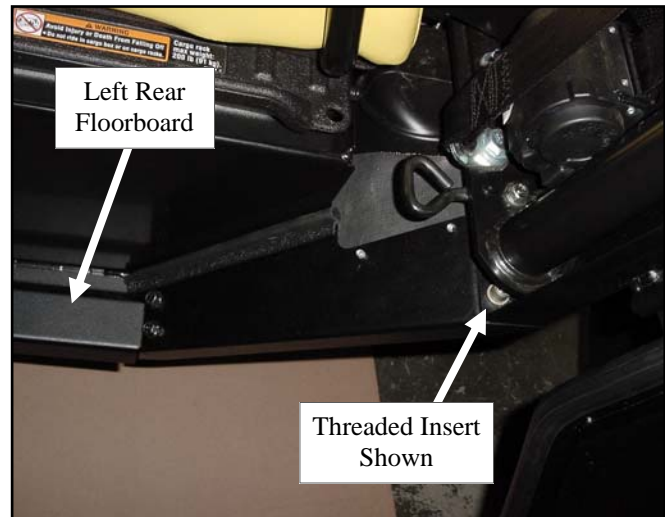

Fig. 11.1 (view of driver's side rear shroud)
**11.1** Install the rear driver-side shroud as shown in figure 11.1. Loosely fasten to the rear panel using the hardware listed below. **Do not tighten at this time.**